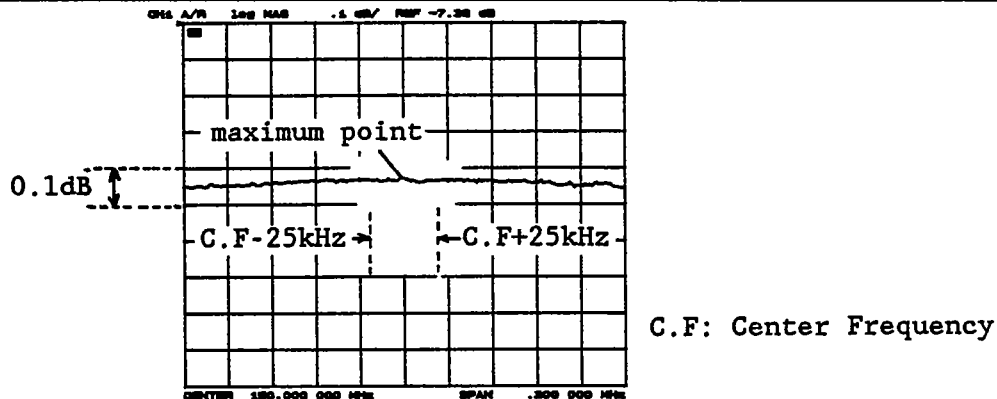

Figure 3-65. Receiver First IF Converter 86.6 MHz BPF Adjustment Example 2
8. Adjust **A22L2**, **L6**, **L7**, and **L9 (86.6 MHz BPF ADJ)** until the ripple in the range displayed by the Network Analyzer is less than 0.1 dB (1 div.), and the maximum point is positioned at 150 MHz  $\pm$ 25 kHz as shown in Figure 3-65.